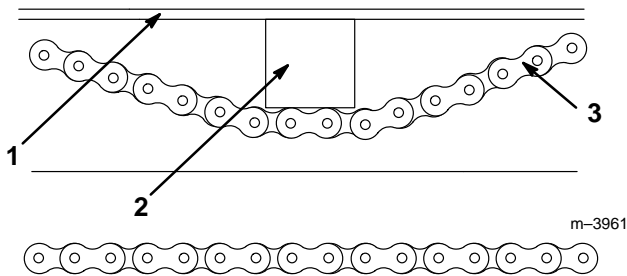

Figure 20
6. Slide a 3 inch by 3 inch block of wood between the top span and the mud guard (Fig. 20).